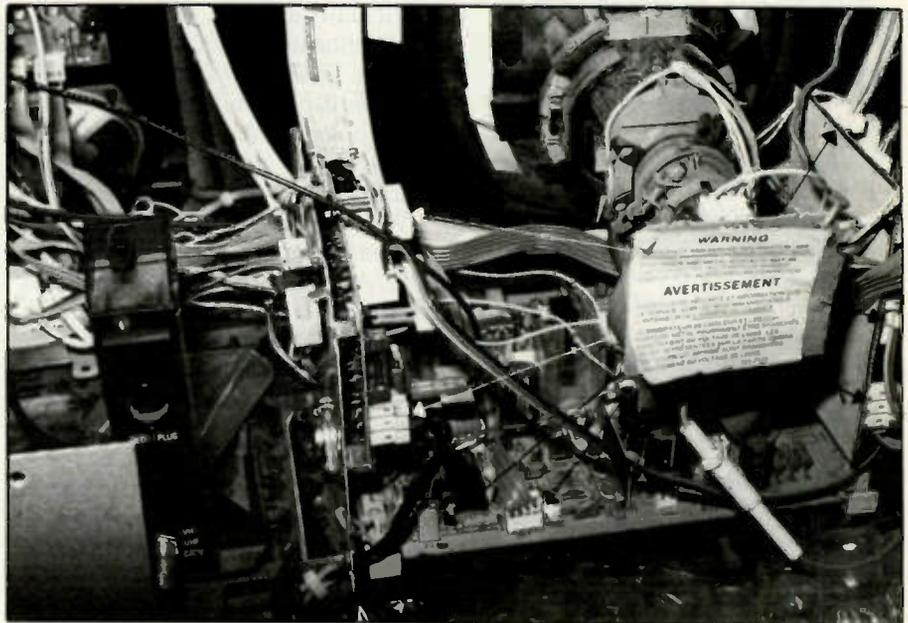

Figure 1. Check for poor socket and board connections on this Zenith portable.
**I**ntermittent problems may occur in any circuit in the TV chassis. Most intermittent problems, however, occur in the vertical and horizontal circuits, or in any circuit where there are poor PC board connections (Figure 1).
Figure 1. The Compact Disc Real Time Operating System (CD-RTOS) used in CD-I, based on the OS-9 real time operating system, is customized to fit the needs of the CD-I system. CD-RTOS is organized as shown here. A series of instructions (CD-RTOS) is loaded from ROM into memory (booted) to create the user shell and load the operating system libraries, managers and drivers when the player is turned on.
system. Figure 1 illustrates the CD-RTOS organization.